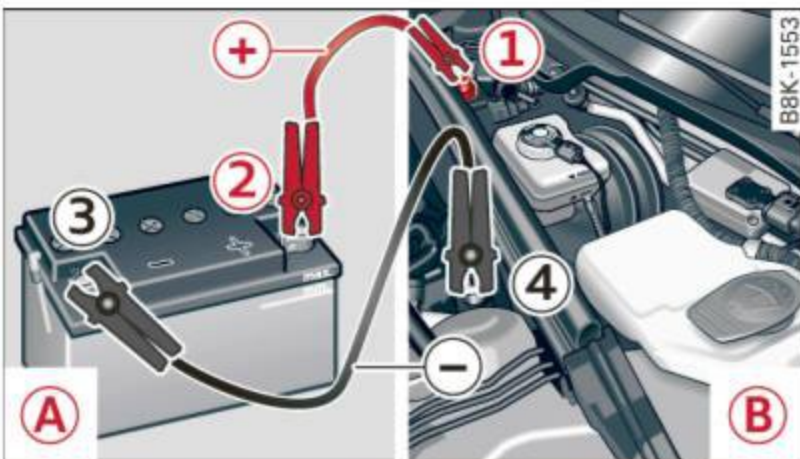

Fig. 212 Jump starting with the battery of another vehicle: (A) booster battery, (B) discharged vehicle battery
1. Connect one end of the red positive cable on the **jump start bolt** ⇒ fig. 212 (1) (Bolts under cover = "positive") of the vehicle to be started (B).
2. Connect the other end to the positive terminal (2) of the booster battery (A).
- Please note that the procedure for connecting a jumper cable as described above applies specifically to the case of your vehicle being jump started. When you are giving a jump start to another vehicle, do *not* connect the negative (-) cable to the negative (-) terminal on the discharged battery  ⇒ fig. 212. Instead, securely connect the negative (-) cable to either a solid metal component that is firmly bolted to the engine block or to the engine block itself. If the battery that is being charged does not vent to the outside, escaping battery gas could ignite and explode!